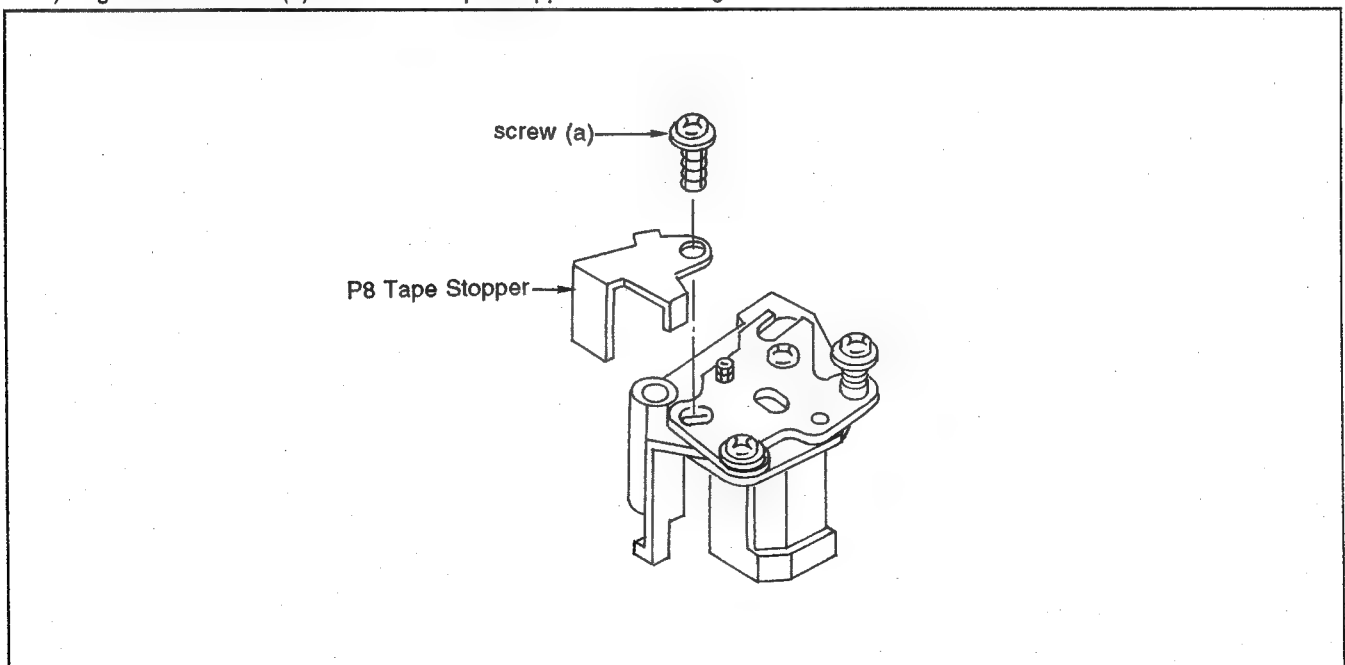

Fig. 7-2-1
- 3) Tighten the Screw (a) without P8 Tape Stopper as shown figure 7-2-1.